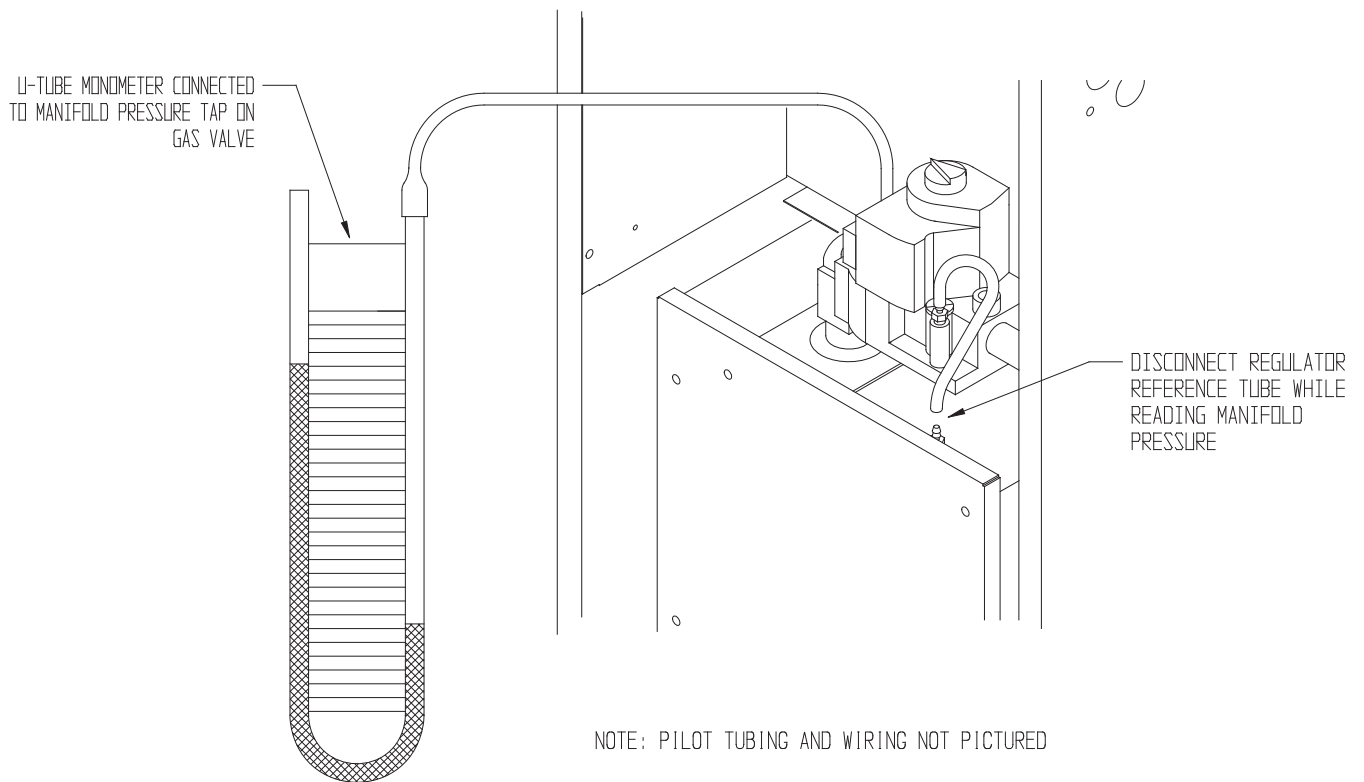

FIGURE 45: MEASURING MANIFOLD PRESSURE
- c) Disconnect the silicone regulator tube from the hose barb on the gas valve (Figure 45).